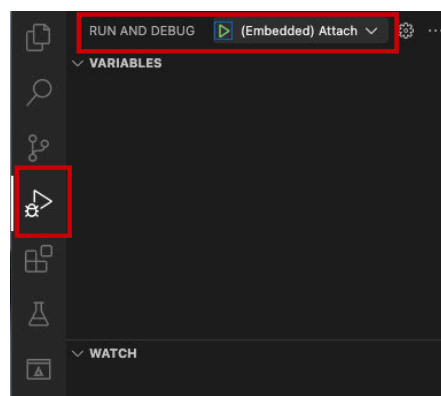

Figure 37. Start debugger
5. Start the debugger by clicking on the play button  (Embedded) Attach  (make sure that the "(Embedded) Attach" option is selected). You can find this button near the top of the window (see Figure 37).